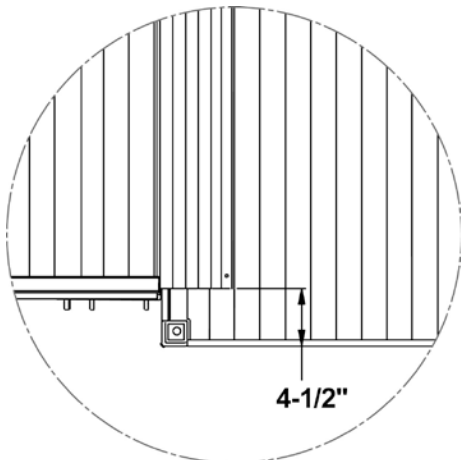

FIG. 17
- 2.5.2 Position the ramp to one side of the platform so that the edge of the transition plate is 4½" from the outer edge of the platform (FIG. 17).